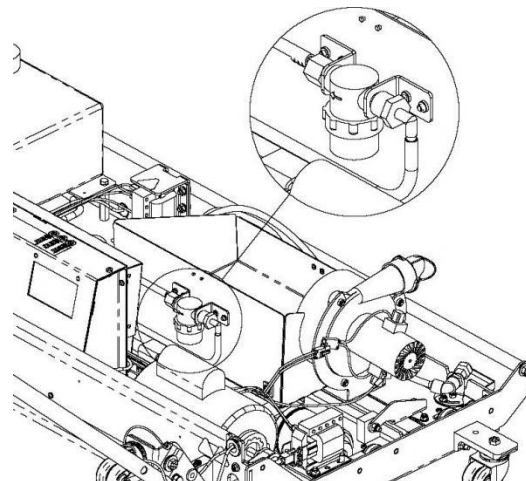

Figure 4- 4
1. Locate the filter, which is attached to the rear of the waste tank support bracket as shown in Figure 4- 4.